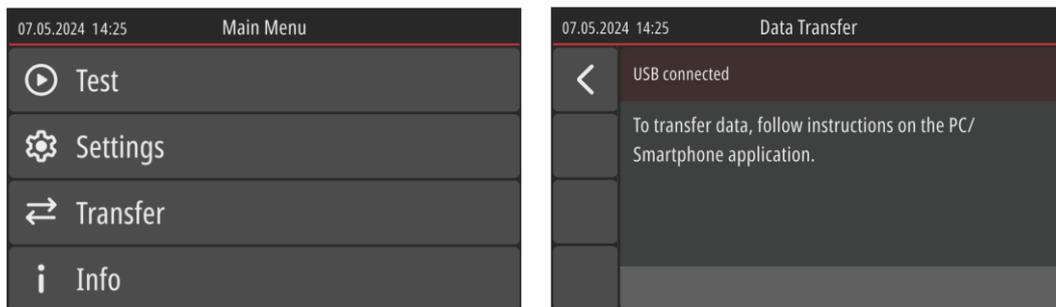

Figure 14: Main Menu (left figure) and Data Transfer mode (right figure)
- Switch ON the Tester, **Main Menu** will appear, see the left side of the Figure 14.
- Select **Transfer** option ⇒ ECT-752 will turn to **Data Transfer** mode, see the right side of the Figure 14.